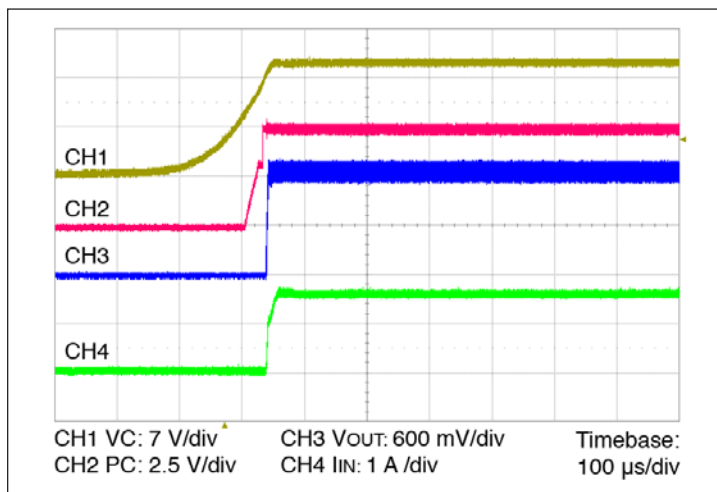

Figure 14 — Start up from application of VC;  $V_{IN}$  pre-applied  $C_{OUT} = 0 \mu\text{F}$
- **Stand Alone Operation (VC applied after VIN):** In this case the module output will begin to rise upon the application of the VC voltage (See Figure 14). The Adaptive Soft Start circuit (See Section 10) may vary the output rate of rise in order to limit the inrush current to its maximum level. When starting into high capacitance, or a short, the output current will be limited for a maximum of 900 µsec. After this period, the adaptive soft start circuit will time out and the module may shut down. No restart will be attempted until VC is re-applied, or PC is toggled. The maximum output capacitance is limited to 5000 µF in this mode of operation to ensure a successful start.